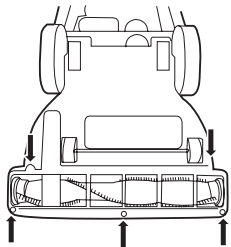

Fig. 25
- Remove the bottom plate of the base by removing the five (5) screws using a Phillips screwdriver. (Fig. 25)